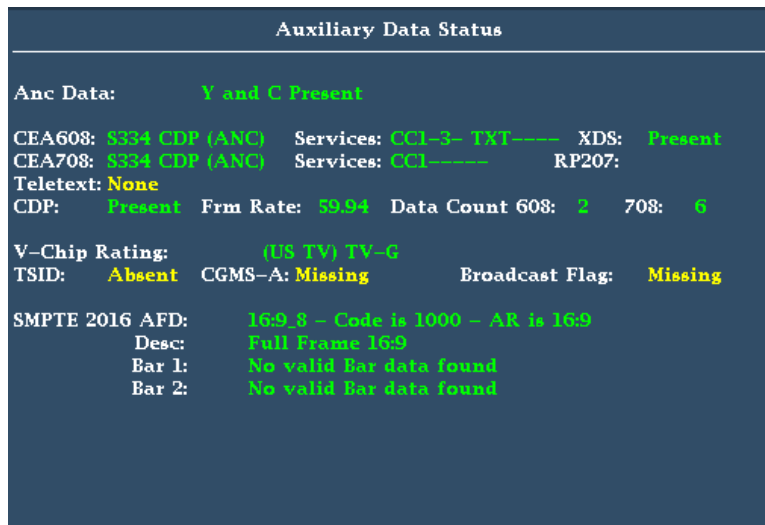

Figure 54: Auxiliary Data Status display
4. Select **Aux Data Status**. The Auxiliary Data Status display shows the status of the closed caption data. (See Figure 54.)
View the graticules in the Picture display. AFD information can viewed in the Auxiliary Data Status display. (See Figure 54 on page 125.)